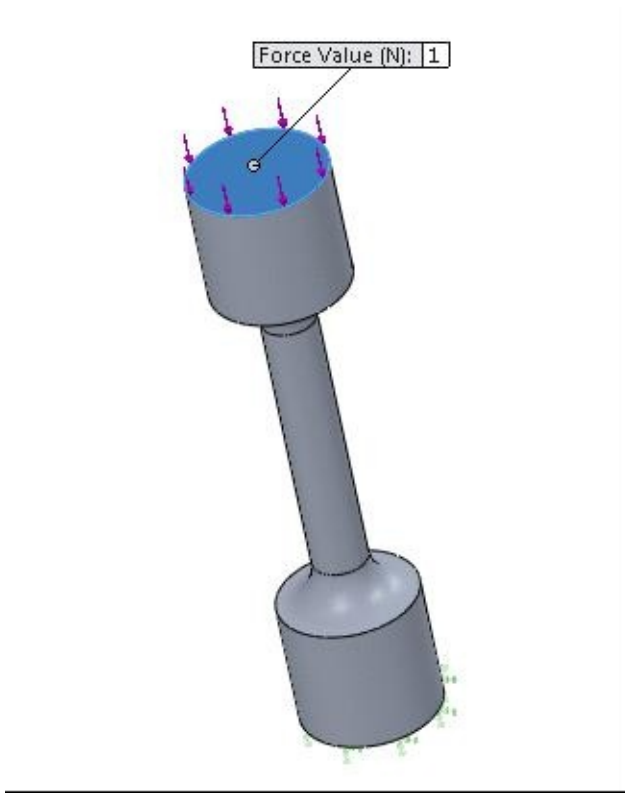

Figure-5. Face for applying force
- Select the face as shown in Figure-5.